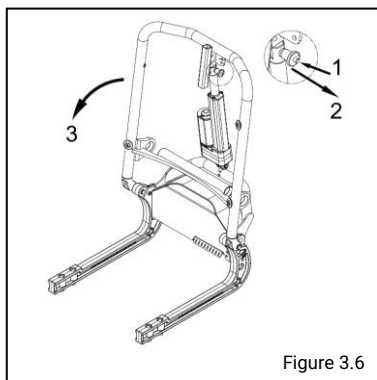

Figure 3.6
Remove the quick release axle (1) from the upper position (2) (fig 3.6).
Fold down the backrest (3) (fig 3.6).